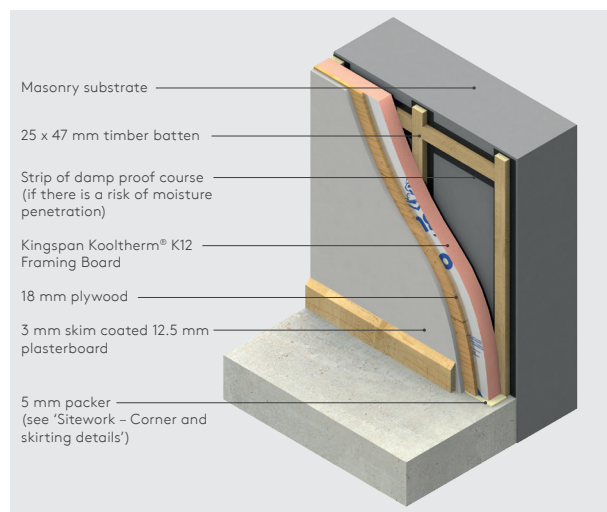

Figure 5: Mechanically fixed construction suitable for heavy internal fittings
- Alternatively, where there are to be extensive heavy internal fittings, the construction outlined in Figure 5 can be adopted.